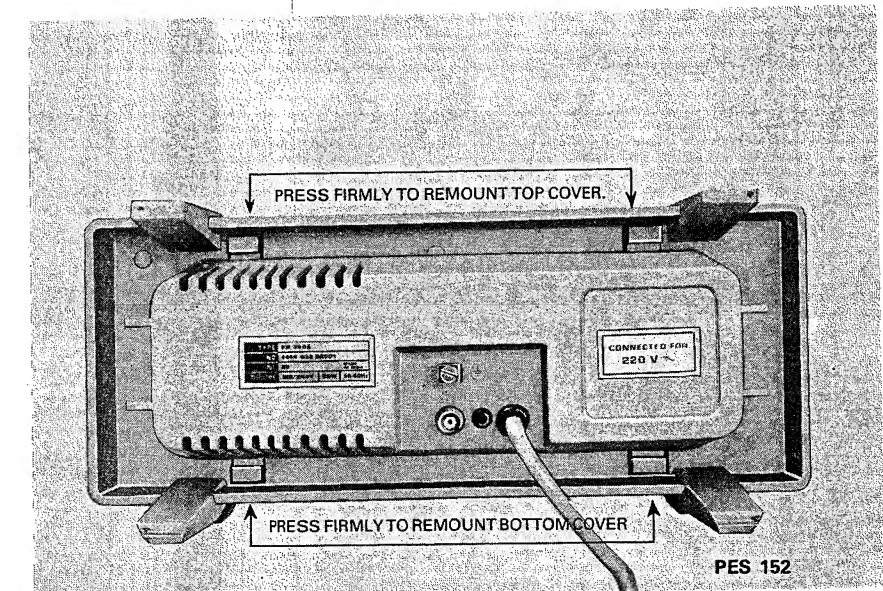

Fig. 3.2 Remounting the top cover
- Press the two buttons at the rear side until the click. (Fig. 3.2.).
- The top-cover will lift now about 2 mm (Fig. 3.2.).
- Press the upper rear side firmly down until the click (Fig. 3.2.).